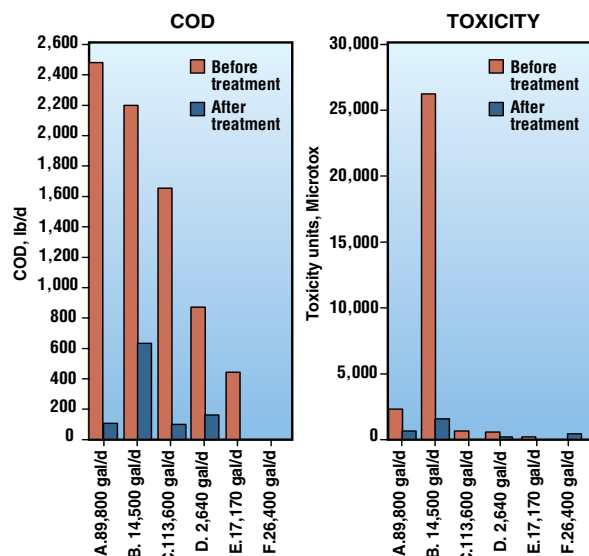
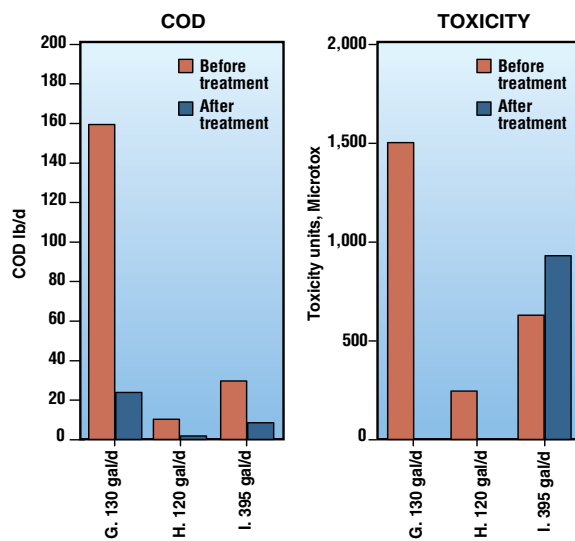

FIGURE 6. These charts show COD and toxicity before and after biological treatment of primary plant wastewater [1]
FIGURE 7. These charts show COD and toxicity before and after biological treatment of secondary plant wastewater [1]
industrial wastewaters such as these. An initial evaluation was conducted in the laboratory to determine whether the wastewater was biodegradable and whether the toxicity of the wastewater would be reduced after the biological treatment. Various wastewater streams (labelled A through I) were collected from both the primary and secondary plants. A continuous laboratory-scale activated-sludge process was used for this work. The temperature for the study was 20°C and the pH was 7. Influent and effluent COD and toxicity were measured. The contribution of toxicity from each stream was calculated as toxicity units, as measured by a Microtox test system, which uses luminescent bacteria to determine the toxicity of a sample. When exposed to a toxic sample, the amount of light emitted by the bacteria is decreased. The more toxic a sample, the less light will be produced by the bacteria. Here, toxicity is calculated as flowrate in m³/day × 100/EC 50, 15 min, where EC50, 15 min represents the effective concentration (EC) of a sample that will cause a 50% reduction in light emission after 15 minutes of exposure of a sample to the test bacteria[1]. The laboratory study results are shown in Figure 6 (for the primary plant) and Figure 7 (for the secondary plant).
6, the COD and toxicity are significantly removed by the biological treatment process. From the left chart of Figure 6, we can see Stream B of the primary plant contains some hard-to-treat compounds. From the right chart of Figure 6, we can see that Stream B has high toxicity before biological treatment, but the toxicity is lower after biological treatment. When the biological effluent was further treated by activated carbon, the toxicity was completely removed. The specific components of Stream B that indicated higher toxicity were separated at the source. Activated carbon was also used to polish the effluent by removing the maximum toxicity.
Figure 7 shows the results of COD and toxicity treatment for the secondary plant wastewater. Stream G had both high COD and toxicity, but both COD and toxicity were significantly removed by biological treatment. Stream I had lower COD but relatively high toxicity. To minimize the toxicity of the wastewater, activated carbon was used to pre-treat Stream I.